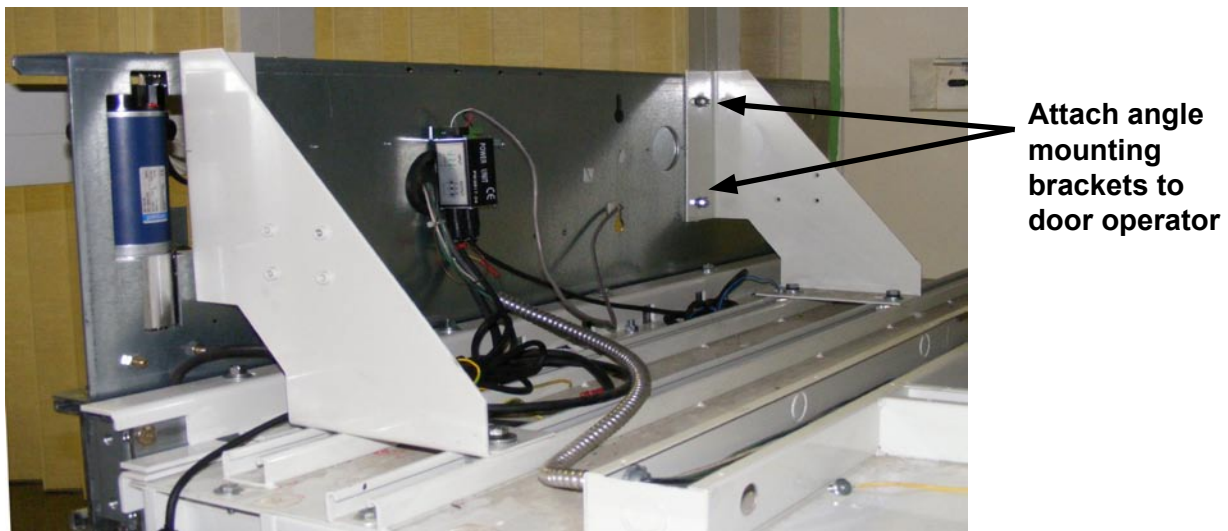

Figure 35 Attach Angle Mounting Brackets to Door Operator
- 4) Next, attach the two angle mounting brackets to the door operator using two bolts and the appropriate fasteners for each bracket. See Figure 35. You now have a door operator assembly consisting of the door operator, Z bracket and two angle mounting brackets.